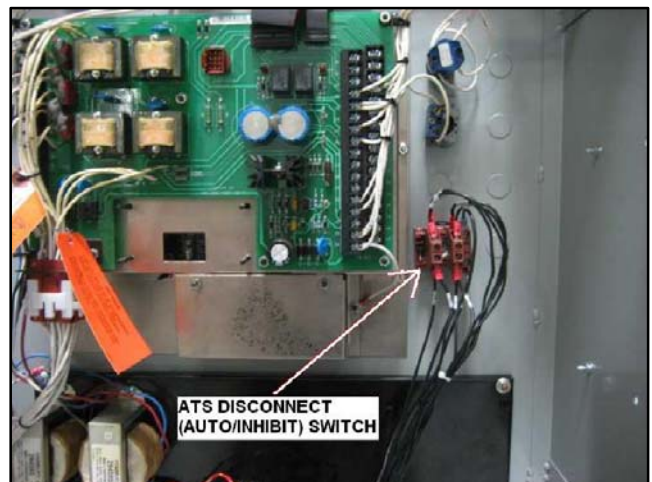
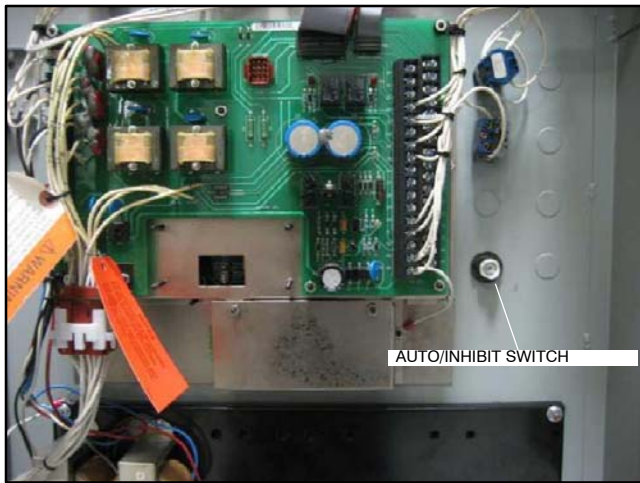

Figure 10 Auto/Inhibit ATS Disconnect Switch
Figure 11 Auto/Inhibit Switch Disconnected
9. Disconnect the Auto/Inhibit ATS disconnect switch. See Figure 10 and Figure 11. Do not remove the individual leads from the plug.